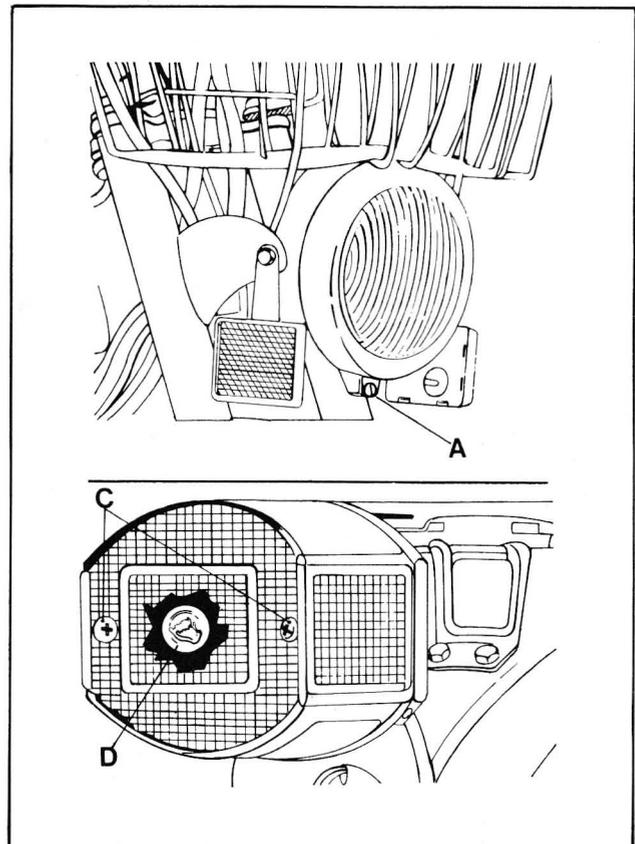

Fig. 15
must be 20-25 mm. The lever «C» actuates the stoplight cutout (D) and the tail light bulb «D» Fig. 15 lights on;
##### Headlight (Fig. 15)
##### Tail light (Fig. 15)